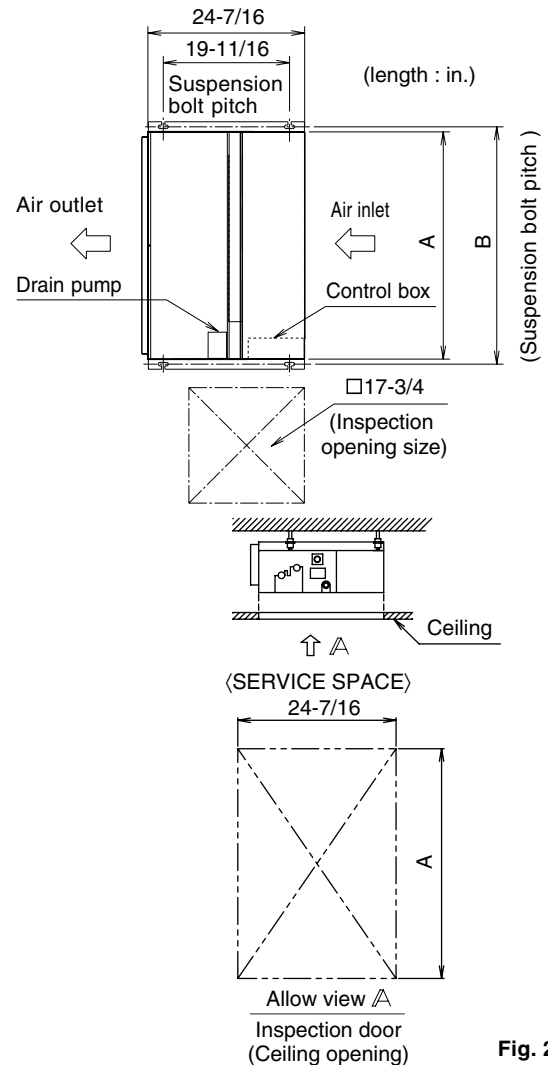

Fig. 2
- (1) Confirm the positional relationship between the unit and suspension bolts. (Refer to Fig. 2)